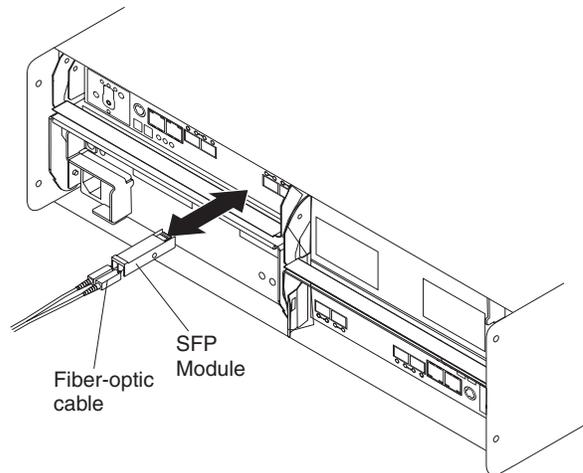

Figure 27. Installing an SFP module and connecting an LC-LC cable to the EXP395
3. Install an SFP module in the SFP port on the back of the EXP395; then, connect the other end of the LC-LC cable into the SFP module, as shown in Figure 27 on page 41.